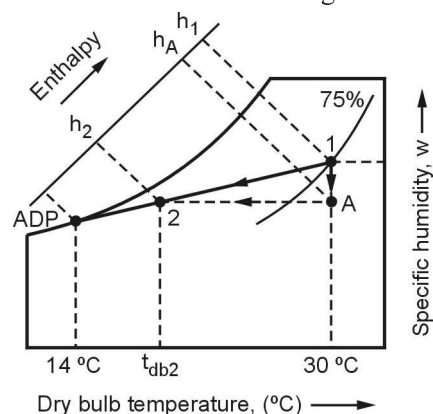

Fig. 5.75
**Sol. :** Refer Fig. 5.75.
- Locate the initial condition of air (point 1) at the intersection of  $30^\circ\text{C}$  DBT and 75 % RH lines on psychrometric chart as shown in Fig. 5.75.
The air coming out of the coil is indicated by point 2 on the line joining 1 and ADP. as shown in Fig. 5.75. The line 1-2 represents the cooling and dehumidification process, which is assumed to have followed the path 1-A (i.e. dehumidification) and A-2 (i.e. cooling). Now from psychrometric chart, we get